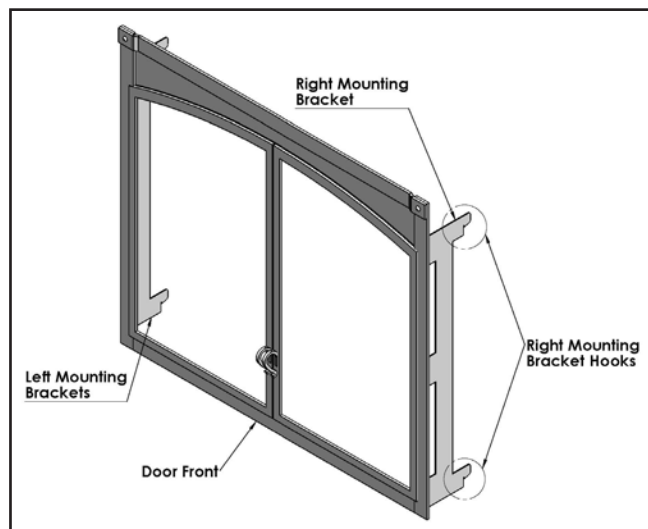

Figure 53: Optional Front Parts.
Optional front is available for your fireplace. The fireplace front hang onto the front of your fireplace using four (4) hooks, one on each corner (refer to Figure 53). These hooks secure the front to the fireplace, providing for easy removal for service access to the fireplace and also to position the front the proper distance away from the glass door and the fireplace facing.
Install the front by lifting it parallel to the fireplace with the mounting bracket hooks pointing towards the fireplace. Slide the hooks all the way into the slots between the Glass Door Frame and the drywall flanges of the fireplace. Pull down on each corner to make sure the hook is engaged with the hanger. Refer to Figures 53 & 54.